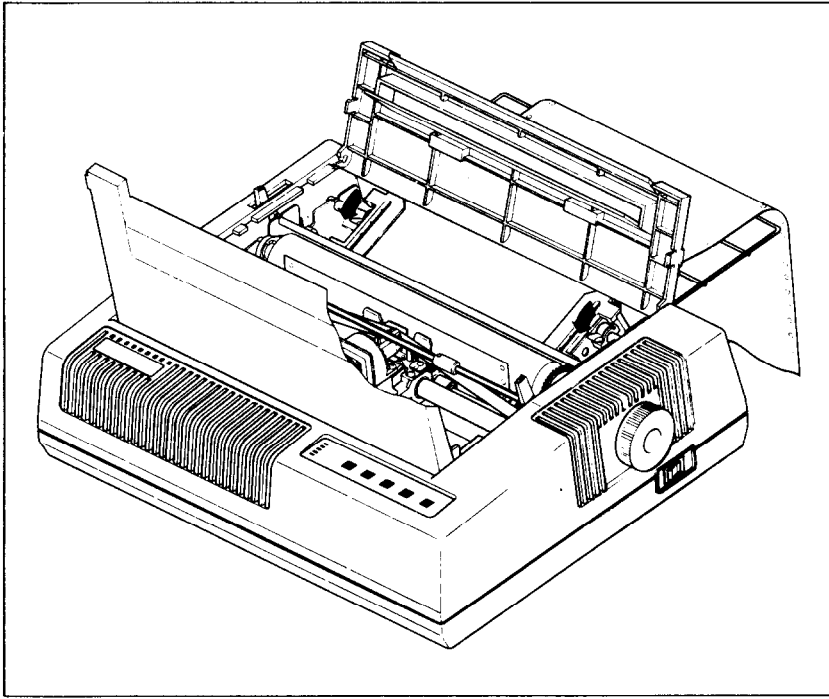

Figure 2-8. With the tractors in place, you're ready to close the covers and advance the paper.
7. Bring the paper up from the back, over the wire guide, and into the back of the printer. When the holes in the paper fit snugly over the nubby teeth in both sprockets, close the tractor covers and snap the clamp levers back into their locked positions (Figure 2-8).